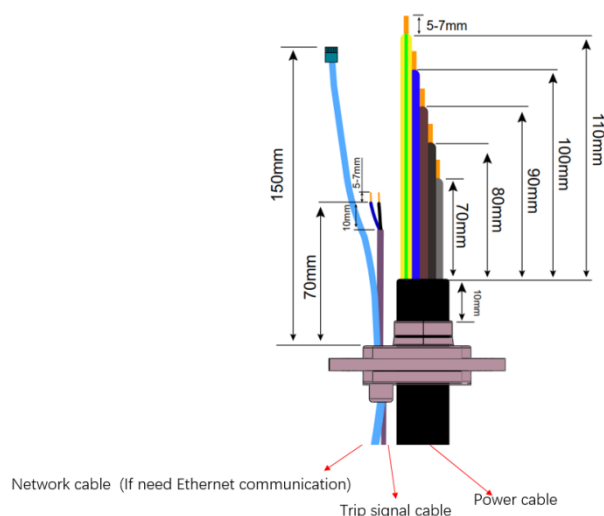

Figure. 9 Cable inlet length
④ Control the cable inlet length and stripping length according to the requirements in Figure. 9. The power cable is a flexible cable, which needs to be crimped with a ring terminal. CAT5 or CAT6 cable can be used as network cable, and the network cable is crimped with the network cable connector.